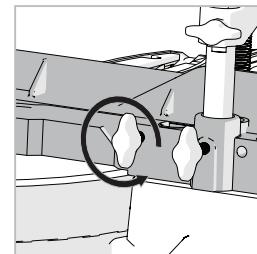

Fig. 10
- Loosen the thumbscrew. (Fig. 10)